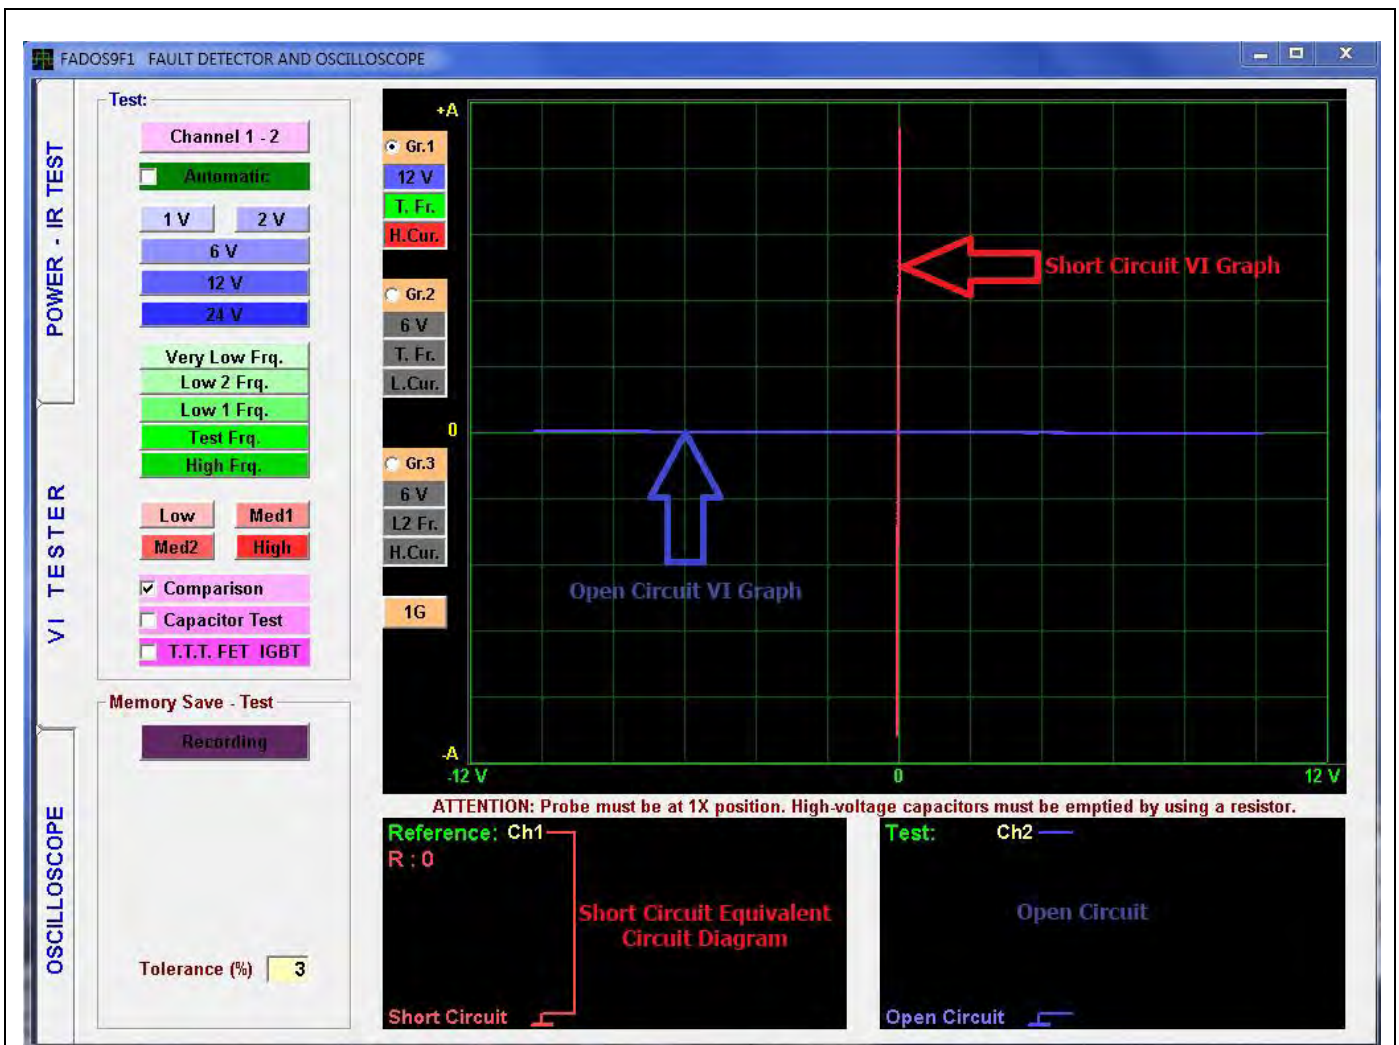

Figure 55: Short Circuit Graph (Channel1) - Open Circuit Graph (Channel2)
The zero current and maximum voltage is represented with a straight line running from the left side of the screen to the right side (Figure 55 Channel2 Open Circuit).
The VI Tester screen is divided into small squares of same size. (as shown in Figure 55). The squares on the horizontal axis provide information about the test voltage selected. For example, if a 6 volt test voltage is selected, each square represents 1 volt. This is explained in detail in page 38.
**Short circuit** (Figure 55 Channel1 Short Circuit) causes maximum current flow and zero voltage drops between the test terminals.